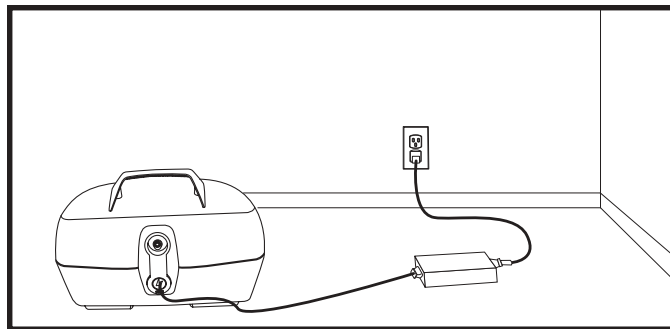

Figure 14. Charging The Batteries (Battery Pack Removed)
1. Position your Travel Scooter or battery pack close to a standard electrical outlet. **See figure 14.**